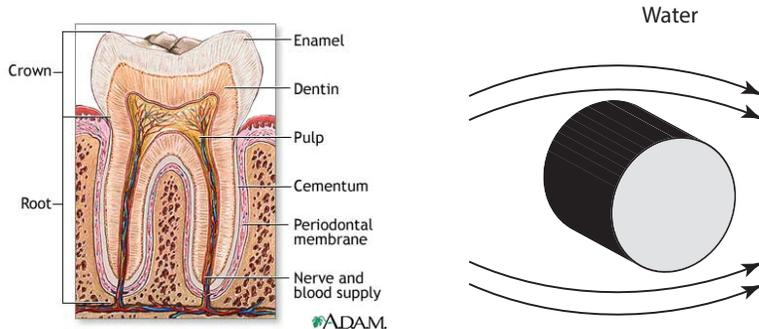

Figure 2: Single tooth with water flowing over it
We wish to model how the temperature of a single tooth will change as we drink hot water. This information can be useful for a sensitive tooth, for example. The tooth can be considered a long homogeneous cylinder (Figure 2) with a diameter of 7.2 mm, thermal diffusivity of  $2.27 \times 10^{-7} \text{ m}^2/\text{s}$ , specific heat of  $1.26 \times 10^3 \text{ J/kg}\cdot\text{K}$ , and density of  $2.20 \times 10^3 \text{ kg/m}^3$ . Initial temperature of the tooth is  $35^\circ\text{C}$ , the tooth is heated symmetrically with water temperature kept constant at  $60^\circ\text{C}$ , and the heat transfer coefficient for flow of water over tooth is  $3.49 \times 10^2 \text{ W/m}^2 \cdot \text{K}$ .
- 2) Assuming the edge of the nerve that senses temperature is located at  $1/3$  radial distance from the center to the surface of the tooth (Figure 2), what is temperature at this location after 30 seconds? ◀ 8 points ▶